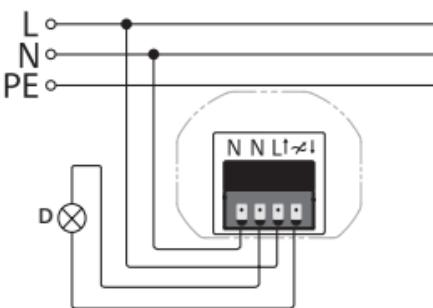
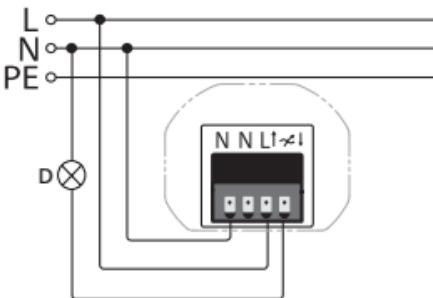

Figure 1
Figure 2
- 4 Connect the conductor for the lamp/light (D) to the $\cancel{\times}$ terminal.
- 7 Connect the neutral conductor for the lamp/light (D) to the neutral conductor of the house installation (see Figure 1) or to terminal N (see Figure 2).